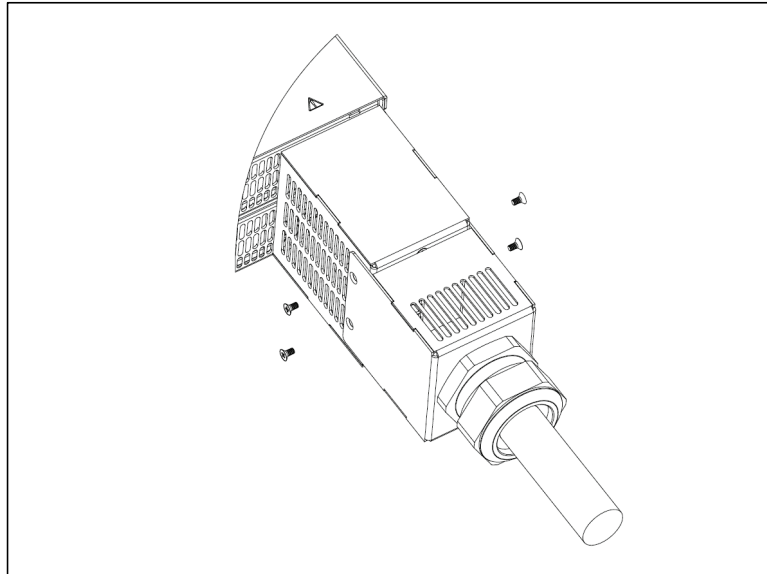

Figure 4-12: Strain Relief Assembled to Power Supply Rear Panel
10. Fix the strain relief assembly, by 4 M3x8 Flat head screws, supplied in the accessories box, as shown in Figure 4-12 (10kW is shown, it applies to 15kW as well). Tightening torque: 4.7-5.7 Lbf-inch. (0.53-0.64Nm).